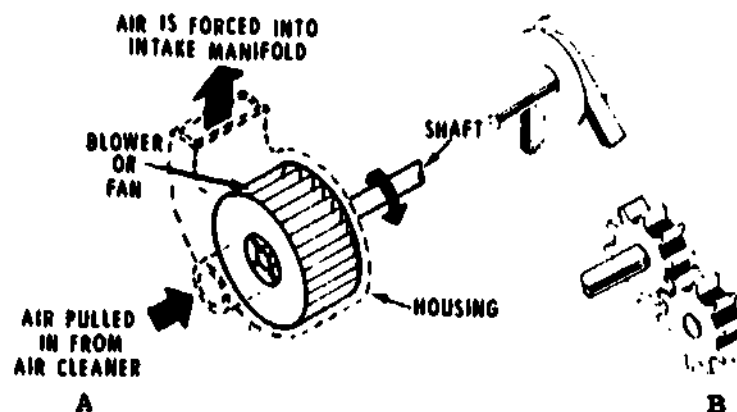

Fig 3-21. Supercharger.
a. **Purpose** (Fig 3-21, A and B). Other compression-ignition engines that you may have to maintain have supercharged air induction systems. These systems have a device that increases the pressure of the air, forcing more of it into the cylinders on their intake strokes. Superchargers can be driven by exhaust gases, belts, or gears (Fig 3-22). The ones that are used on most military vehicles are exhaust gas driven and are called turbosuperchargers or turbochargers.